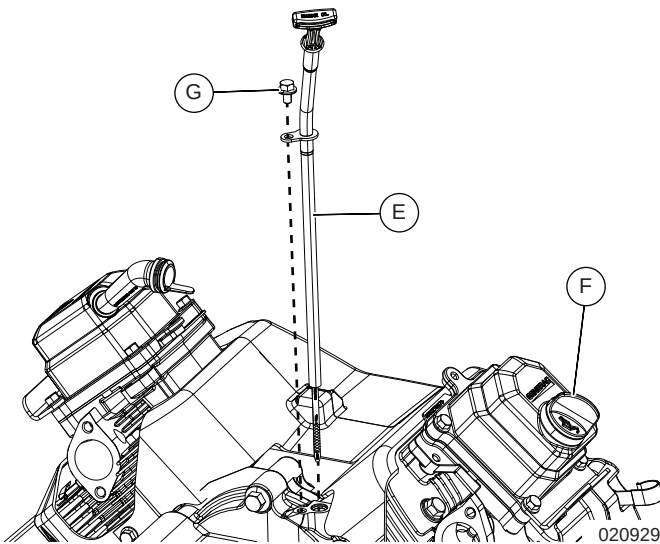

Figure 12-19. Install Dipstick
3. Fit oil drain assembly over barbed fitting and secure with 16.5 mm stepless ear clamp (C).
4. Hang oil drain hose in the J-clip (D) on blower housing.
5. See Figure 12-19. Fill engine through port in rocker cover (F) with 2.5 qt (2.4 L) of clean Generac 5W-20 synthetic engine oil (dry oil filter).